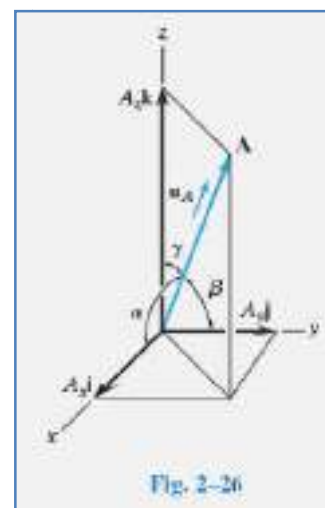
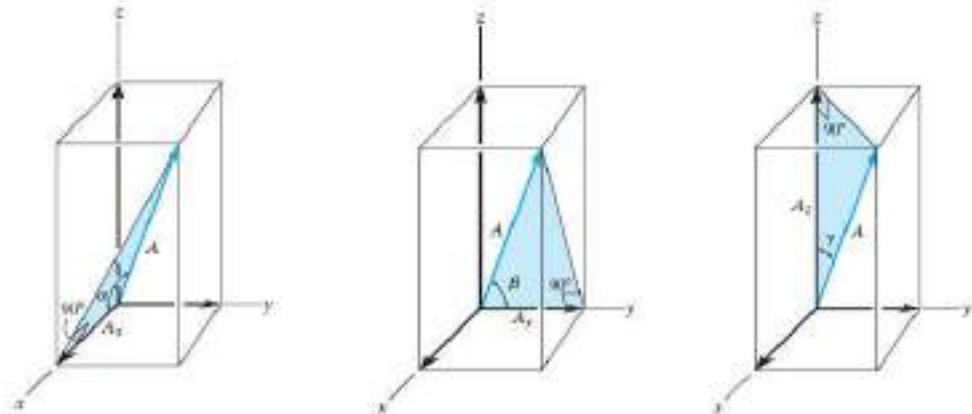

Fig. 2-26
Fig. 2-27
- Now the *direction* of \mathbf{A} will be defined by the *coordinate direction angles* α (alpha), β (beta), and γ (gamma), measured between the *tail* of \mathbf{A} and the *positive* x , y , z axes provided they are located at the tail of \mathbf{A} , Fig. 2-26 and Fig. 2-27.
- An easy way of obtaining these direction cosines is to form a unit vector u_A in the direction of A , Fig. 2-26. If A is expressed in Cartesian vector form, $\mathbf{A} = A_x\mathbf{i} + A_y\mathbf{j} + A_z\mathbf{k}$, then u_A will have a magnitude of one and be dimensionless provided A is divided by its magnitude, i.e. :